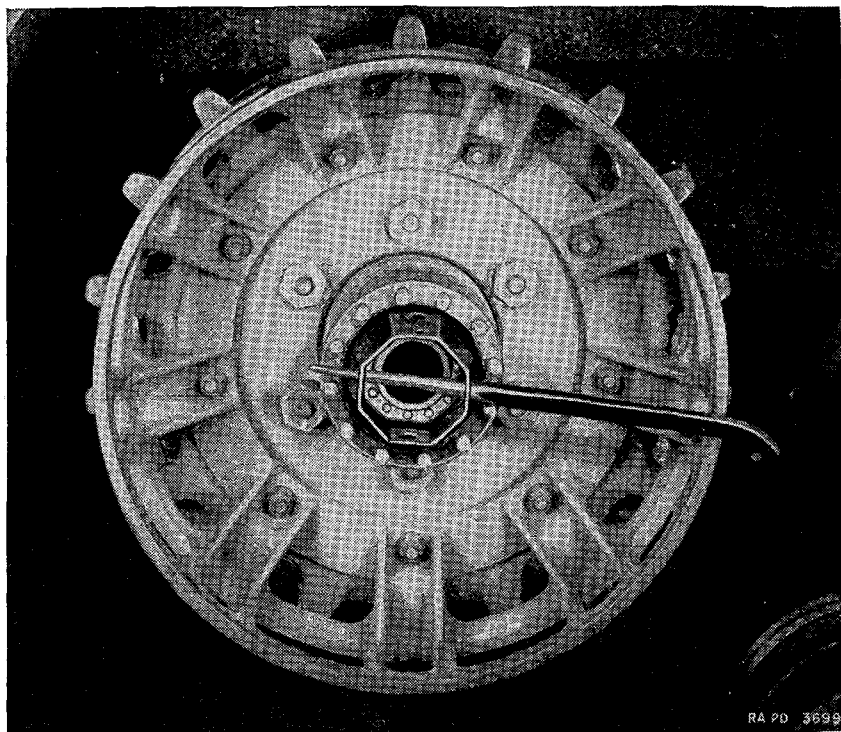

FIGURE 48.—Rear axle drive sprocket bearing nut removal.
(3) Remove bearing nuts—nut wrench, wheel bearing. Using both sides of wrench, remove lock nuts (B143571), thrust washer (B184325), and adjusting nut (A214925, fig. 48).
(4) Remove assemblies—wheel puller (if necessary). Pull off hub and drum assemblies (C85637 L. H., C85638 R. H.), carrying with them the inner and outer bearing assemblies and oil seals.
(5) Remove bearings and seals from hubs—brass drift, hammer. Knock out the outer bearing cups (A175485) and cones and rollers (A214923), the inner bearing seals (A214924), and the inner bearing cups (A214948) and cones and rollers (A214922). (Bearing pullers may be used if available.)